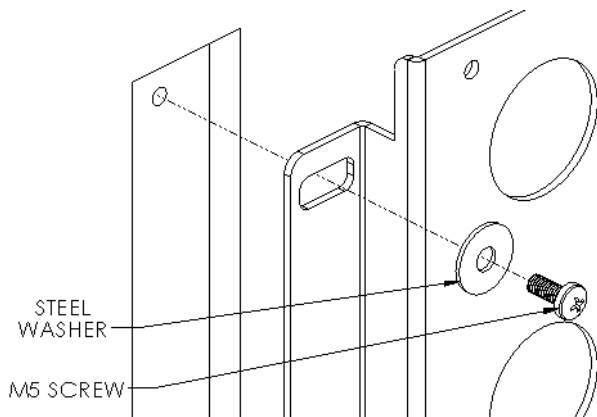
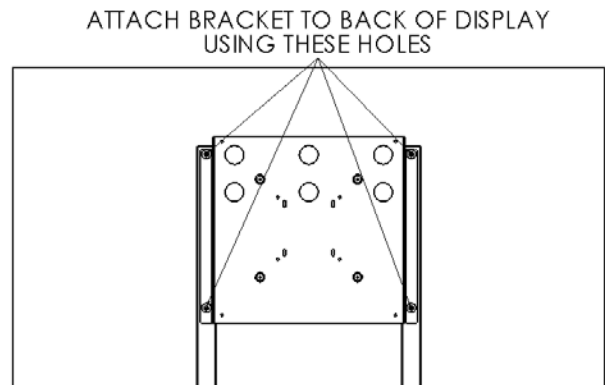

Figure 6
Figure 7
- Attach bracket to back of display using the M5 screws and steel washers (see Figure 6 and Figure 7). Do not over-tighten screws.